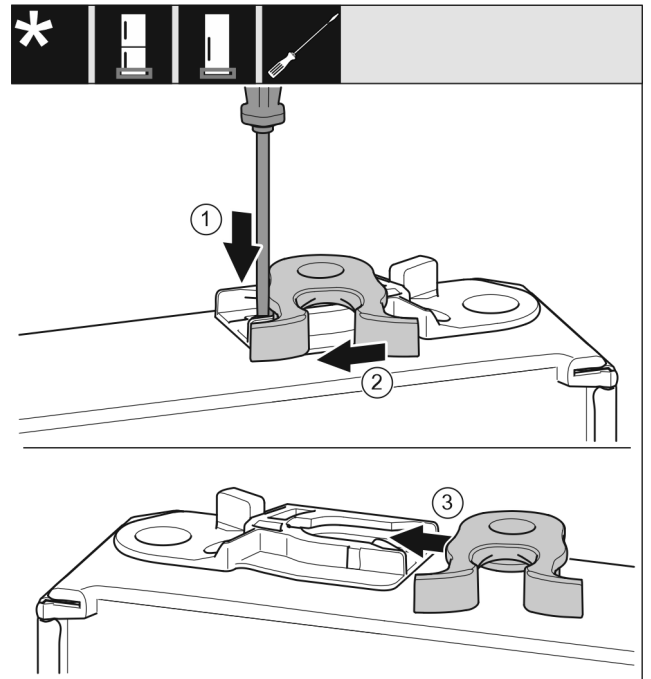

Fig. 15
- Push the lug downwards with a slotted screwdriver. Fig. 15 (1)
- Pull the door latch out of the guide. Fig. 15 (2)
- Push the door latch into the guide on the other side. Fig. 15 (3)